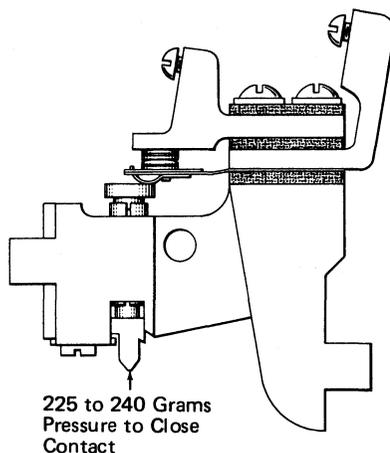

Figure 3-9. Plunger Circuit Breaker—Adjustment 3
3. Check to be sure that the plunger does not bind (Figure 3-9). The coil spring spreads the bushing to create a drag between the bushing and frame. This increases the pressure required to close the contact (measured at contact strap) from 160 grams to 225 grams (measured at plunger). This friction dampens the rebound when the contact closes. Check to be sure that a maximum of 240 grams applied to the plunger closes the contact.